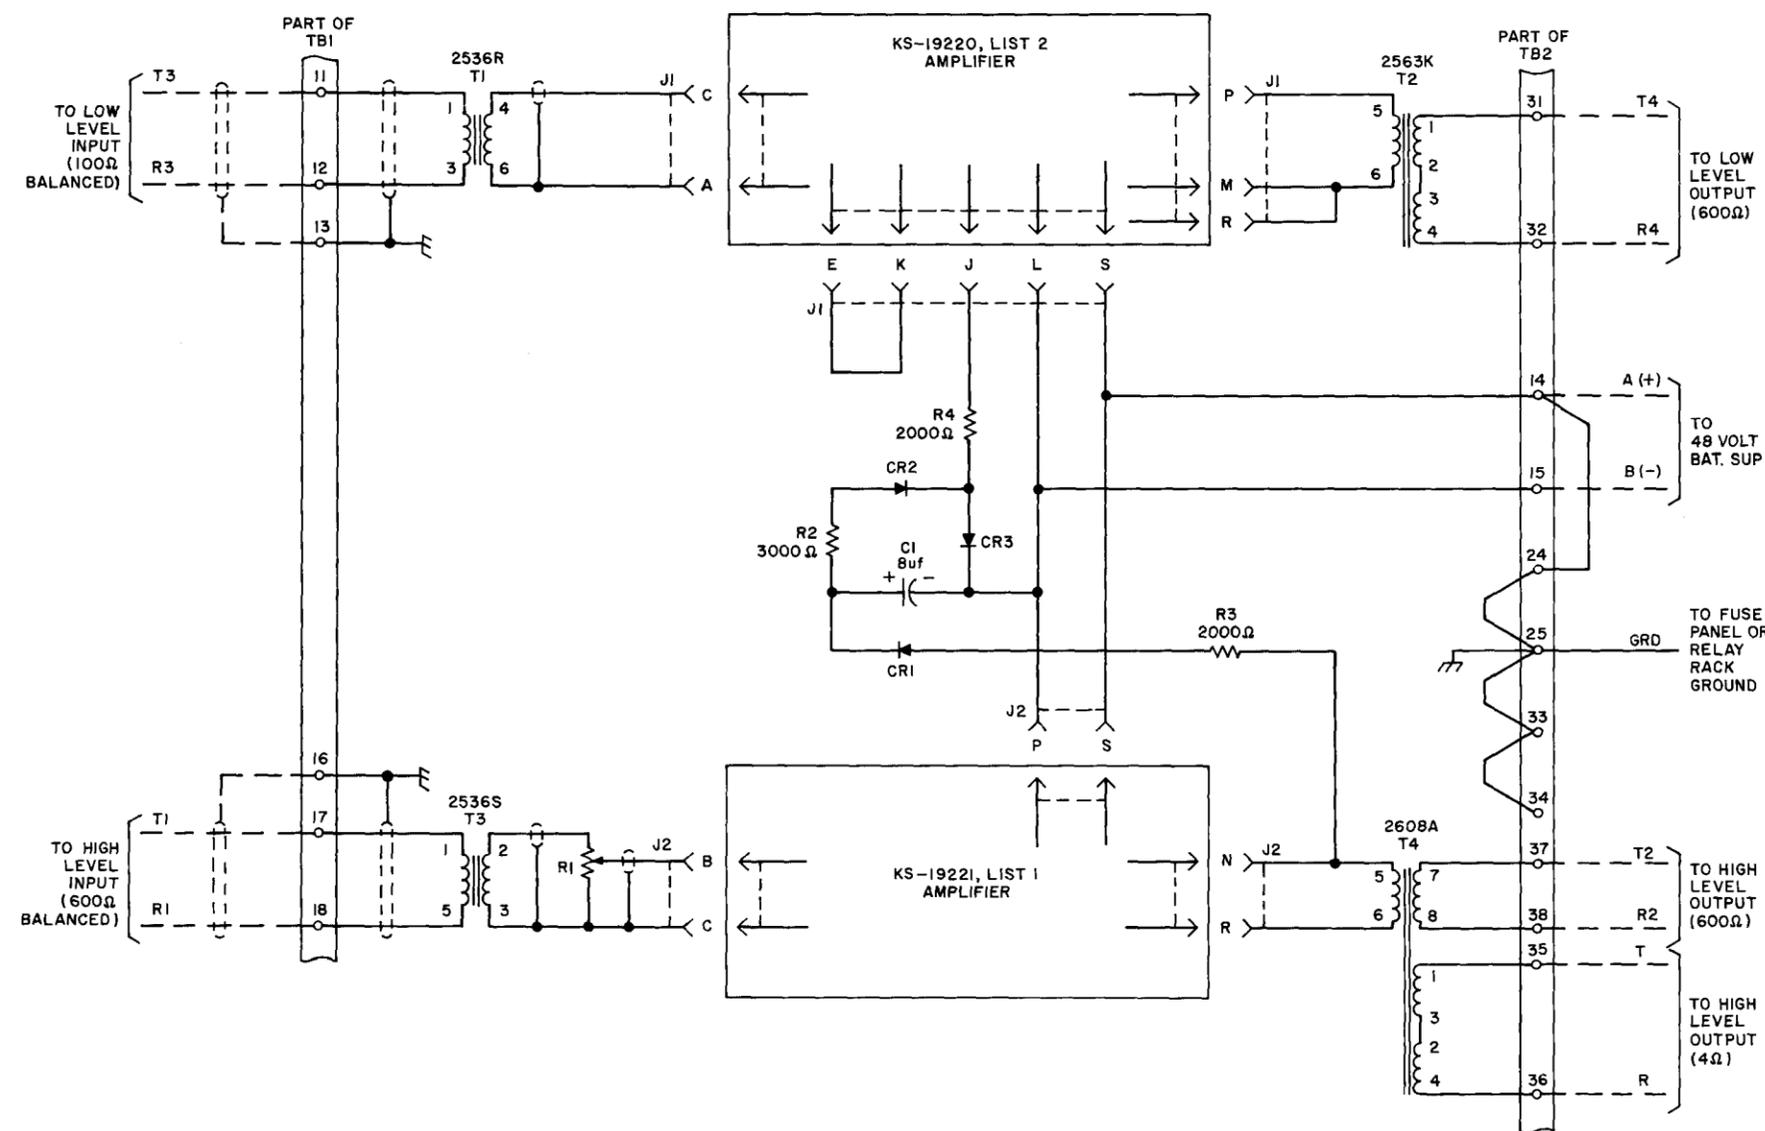

Fig. 3 — KS-19601, List 1 Amplifier — Schematic (Including External Connections)
3.06 The amplifier circuits are terminated at the rear of a D3A terminal strip (TB1) mounted on the right side of the assembly. The circuits are extended through the terminal strip to wire-wrap terminals on the front, where all external wiring connections are made. External connections to the amplifier are as shown in Fig. 3.
4.01 The KS-19601, List 1 amplifier provides two channels of amplification: a low-level channel and a high-level channel. The amplifier includes a sidetone attenuation network. Figure 3 is a schematic of the amplifier with external connections shown.